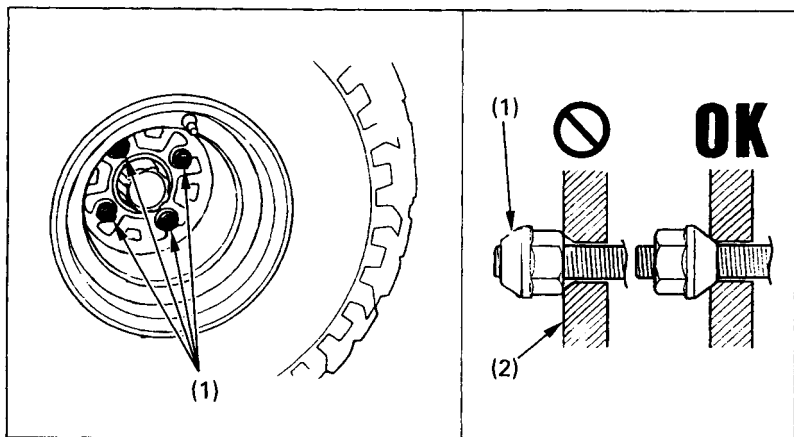

Fig. 4-30 (1) Wheel nuts
2. Loosen the wheel nuts (Fig. 4-30) with a 17 mm socket wrench.